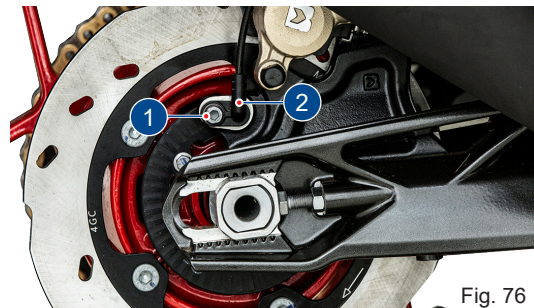

Fig. 76
- Remove the mounting screw (1) from the speed sensor mounting and carefully take out the speed sensor (2) (**ref. Fig. 76**).
- Assemble the speed sensor (2) and mounting screw (1) in rear caliper (ref. Fig. 76).